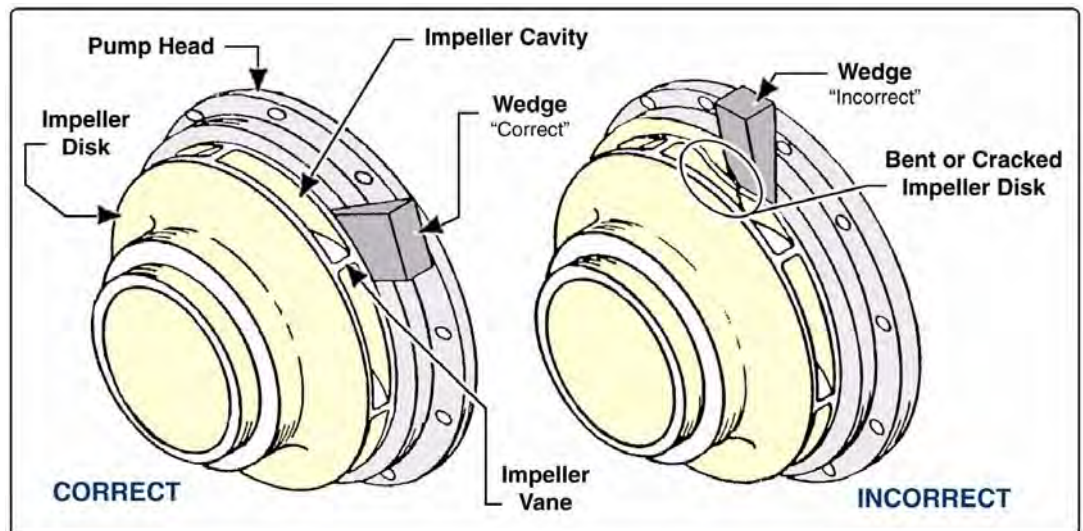

Figure 7-2: Placing Edges for Impeller Removal
9. Remove the impeller by placing hardwood wedges on each side of the impeller, between the impeller and the pump head. The wedges should bear against the impeller disk, directly behind the impeller vanes, to prevent damage. (See Figure 7-2: "Placing Edges for Impeller Removal.")